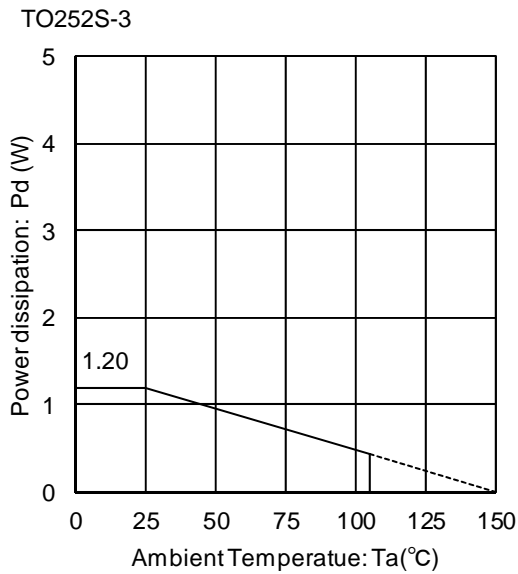
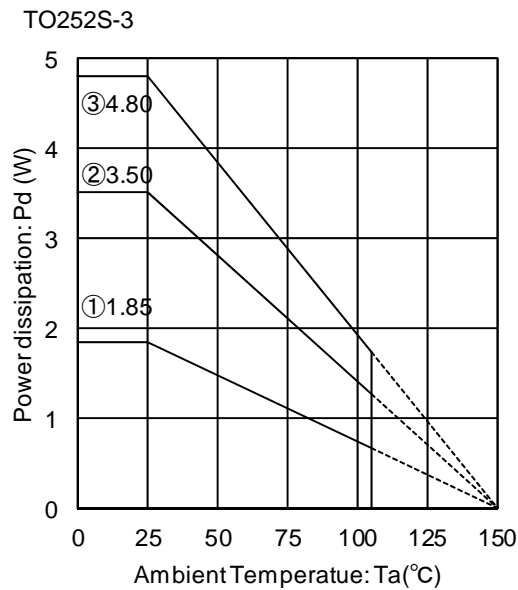

Figure 25.
Figure 26.
When used at temperatures over $T_a=25^{\circ}\text{C}$, please refer to the power dissipation curve shown in Figure 25 and Figure 26. The IC characteristics are closely related to the temperature at which the IC is used, so it is necessary to operate the IC at temperatures less than the maximum junction temperature $T_{j\text{max}}$.
Figure 25 and Figure 26 show the acceptable power dissipation curve of the TO252S-3 package. Even when the ambient temperature T_a is at normal temperature (25°C), the chip (junction) temperature T_j may be quite high, so please operate the IC at temperature less than the acceptable power dissipation P_d .
The calculation method for power consumption $P_c(\text{W})$ is as follows : (Figure 26③)
$$\left(\begin{array}{l} \text{Figure 26③ : } \theta_{ja}=26.0^{\circ}\text{C/W} \rightarrow -38.4\text{mW}/^{\circ}\text{C} \\ 25^{\circ}\text{C}=4.80\text{W} \rightarrow 85^{\circ}\text{C}=2.496\text{W} \end{array} \right)$$